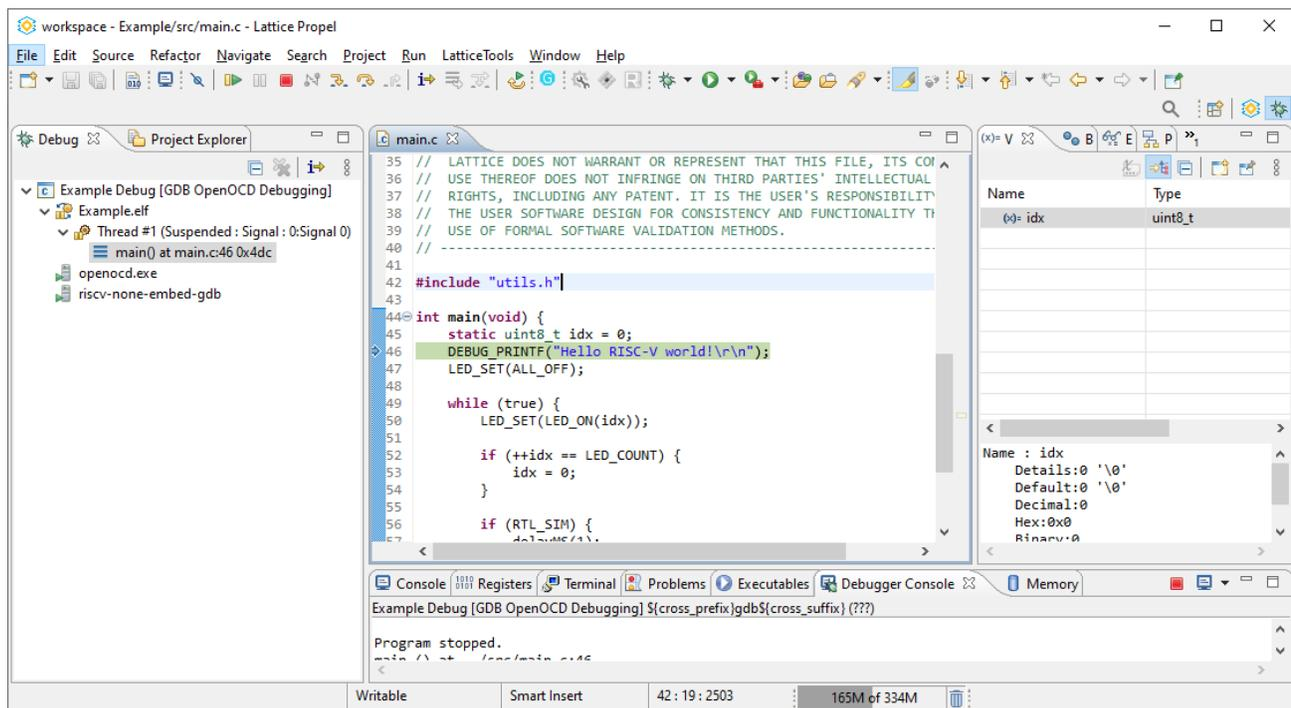

Figure 3.37. Debug Perspective
- The Propel Window displays as shown in Figure 3.37. The execution stops right at the beginning of the *main()* function.